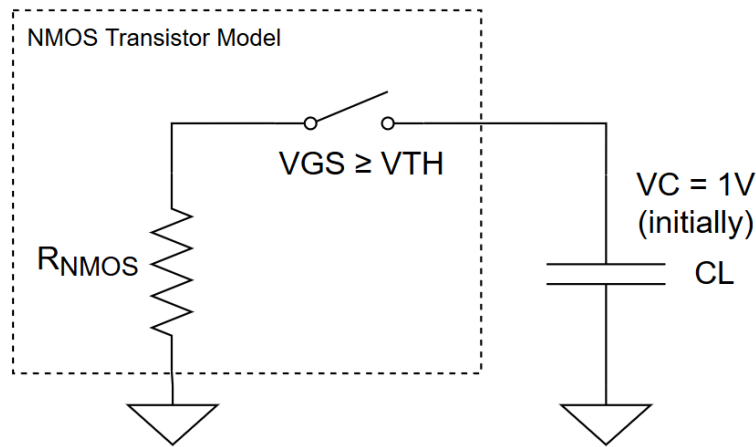
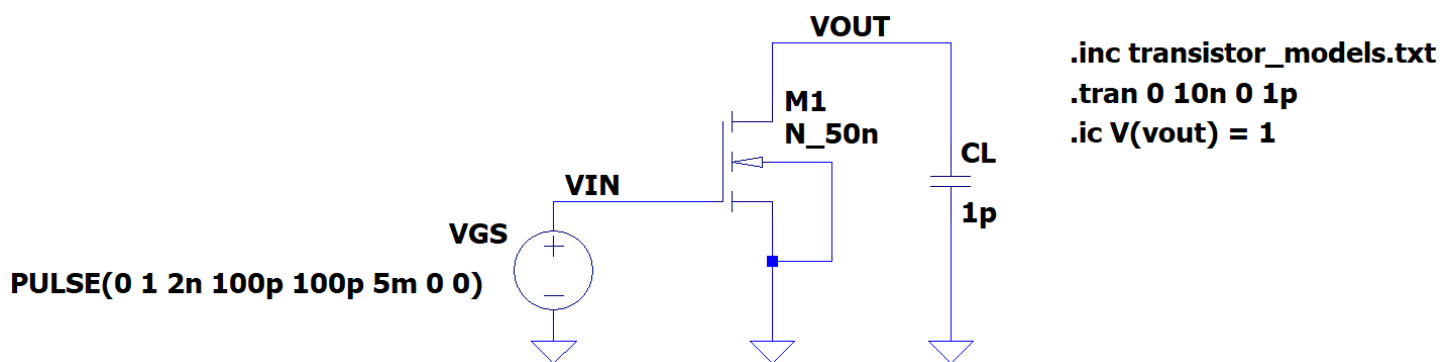

Figure 2.10 NMOS Switch Model
Figure 2.11 NMOS as a Switch
The transient characteristic for a MOS switch is important because we will be characterizing the speed of our inverters later on. Essentially, we need to extract the input capacitance and the output resistance of our transistor. We shall tackle the output resistance of the transistor first. Consider the two circuits shown in Figure 2.10 and Figure 2.11. Figure 2.10 models our NMOS transistor as a switch. Here, the capacitor is initially charged to 1V. ($V_C = 1V$). When $V_{GS} \geq V_{THN}$, the switch will turn on connecting the resistor and the initially charged capacitor (currently holding $V_C = 1V$). The capacitor will discharge into the ground passing through the resistor in its path. The speed of discharge is the $R_{NMOS}C_L$ time constant. Eventually, the voltage across the capacitor will reach 0. This is exactly what happens to the NMOS transistor acting as a switch shown in Figure 2.11. Essentially, Figure 2.10 *models* the scenario happening in Figure 2.11. The NMOS transistor consists of both the R_{NMOS} resistor and the switch at the same time. This is depicted in the box in Figure 2.10. Let's try to extract this “modelled” R_{NMOS} resistor.
1. **Re-create the circuit in Figure 2.11.** Make sure to include the following:
- a. **Open a SPICE directive** `.ic` and type in: **“.ic V(vout) = 1”**. This is shown in Figure 2.11.